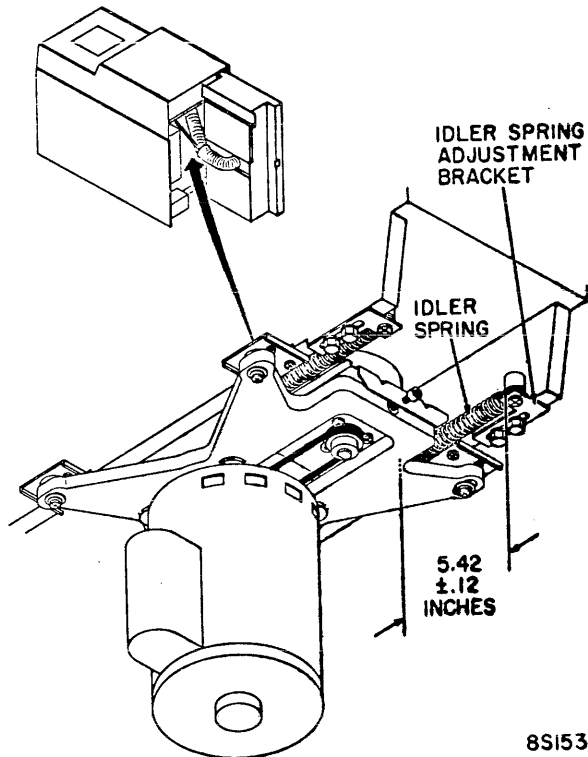

Figure 3-27. Drive Belt Adjustment
(Figure 3-27).
5. Loosen two screws securing idler spring adjustment bracket to deck (figure 3-27). Remove idler spring.
19. Slip one end of idler spring around spring post on idler spring adjustment bracket (Figure 3-27). Move drive motor away from spindle assembly while slipping other end of idler spring around spring post on motor mount casting.
21. Position idler spring adjustment bracket until length of spring is as shown in Figure 3-27. Tighten two screws securing bracket to deck casting.